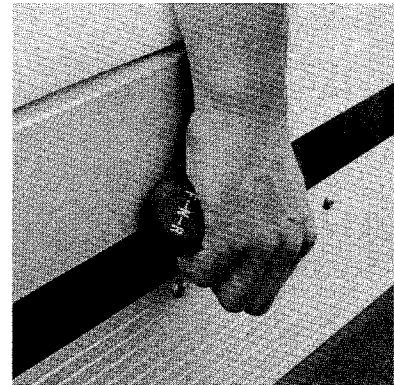

Figure 2-3
Forward-Reverse Control - The forward-reverse shift lever is located below and to the right of the driver's right knee on the seat support panel (Figure 2-3). The lever has three (3) distinct positions: F (forward), N (neutral), and R (reverse). Rotate the lever toward the driver (F) to run the car in forward and toward the passenger (R) to run the car in reverse. When the lever is in the straight up or neutral (N) position, the car will not run and the engine will stop if shifted to this position while running.